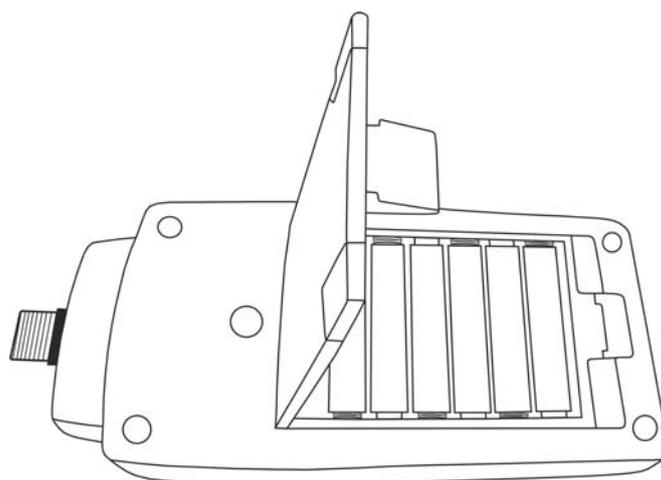

Fig. 16: Replacing internal batteries
2. Lift the stand, press the tag of the battery compartment cover to open it (see Fig. 16).